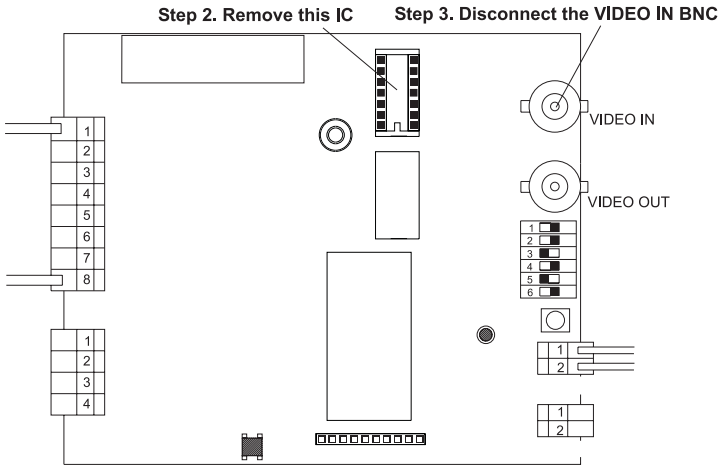

Figure 2. Removing the old video amplifier IC and disconnecting the VIDEO-IN lead.
- Using a suitable tool remove the IC indicated in figure 2